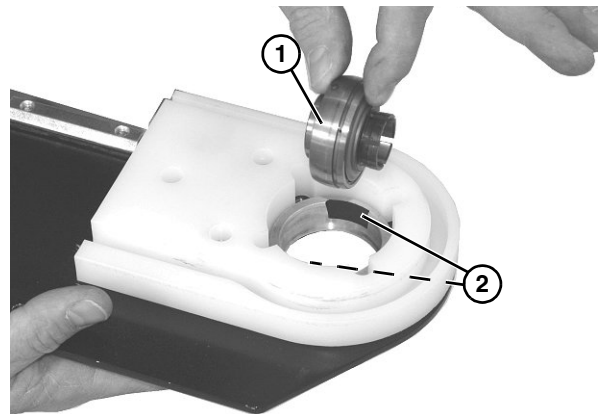

Figure 53
1. Turn bearing (**Figure 53, item 1**) to align with slots (**Figure 53, item 2**) in bearing housing. Then remove bearing.